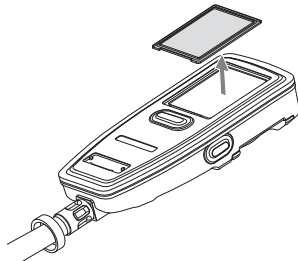

Fig. 50 Removing the LCD protective cover
5. Remove the protective cover from the LCD screen (Fig. 50).